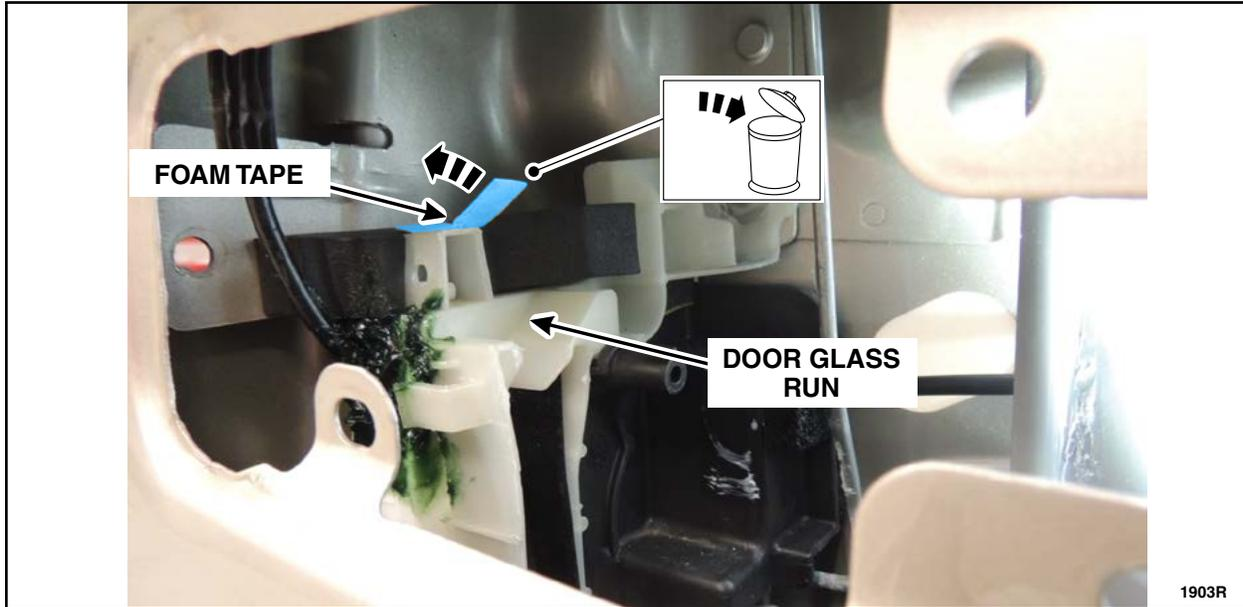

FIGURE 6
9. A piece of Foam Tape held the door glass run funnel to the door glass run, if not removed with the door glass run funnel, remove and discard the piece of Foam Tape from the top of the door glass run as shown in Figure 6.